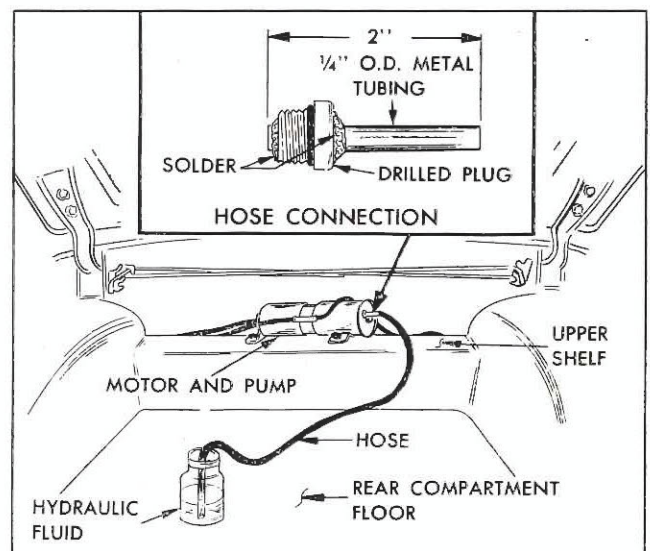

Fig. 1—Filling Hydraulic Reservoir
2. Insert a two inch length of metal tubing ( $\frac{1}{4}$ " O.D.,  $\frac{3}{16}$ " I.D.) into center of filler plug; then solder tubing at both ends of plug to form an air tight connection, as shown in inset of Figure 1.